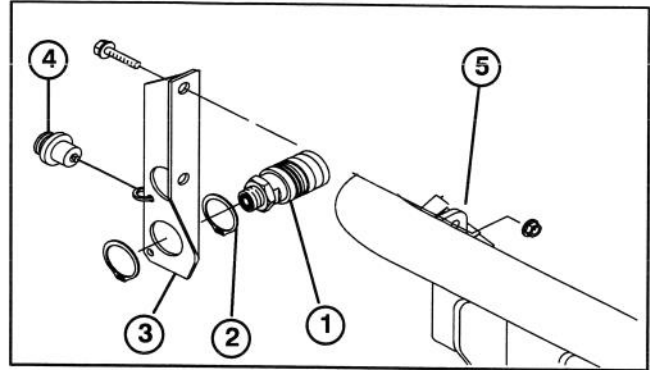

Figure 21
34. Install a retaining ring onto each hydraulic coupler, insert couplers into coupler bracket and secure each with another retaining ring (Fig. 21).
35. Secure dust plug mounting rings to holes in coupler bracket (Fig. 21). Insert dust plugs into couplers.
36. Mount coupler bracket to rear frame bracket with (2) 1/4–20 x 1–1/4" lg. flangehead capscrews and flange locknuts (Fig. 21). If vehicle is equipped with an